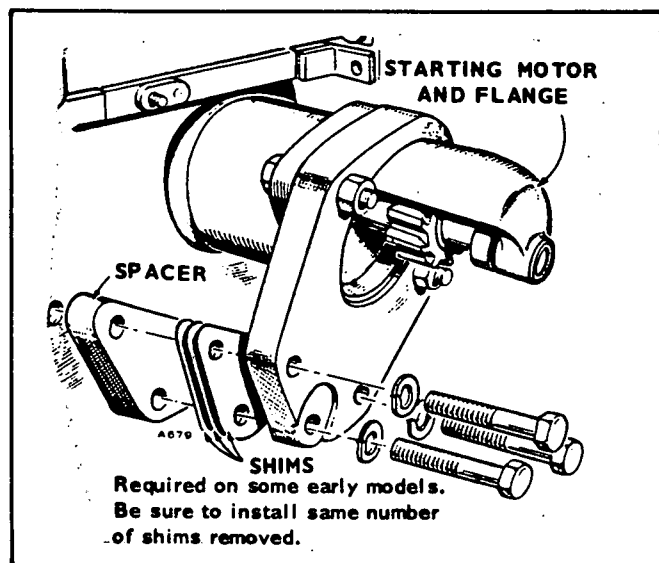

FIGURE 37. STARTING MOTOR SHIMS
11. If it is necessary to remove the starting motor flange (Figure 37), watch for shims between the flange and crankcase surface. Save any shims, as they must be reinstalled to position the starter correctly.
IMPORTANT: On units built prior to serial number 679677, it was necessary to maintain the gap between ring gear and starter pinion in the relaxed position at less than 1/8 inch to insure starter engagement. When installing these motors, check this gap. If it is too great, a shim kit is available to reduce it (Figure 37).